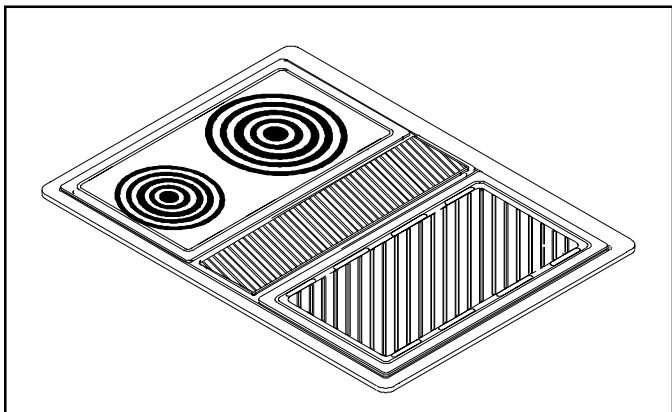

Figure 29
4. See Figure 29. Place grill on module pan.